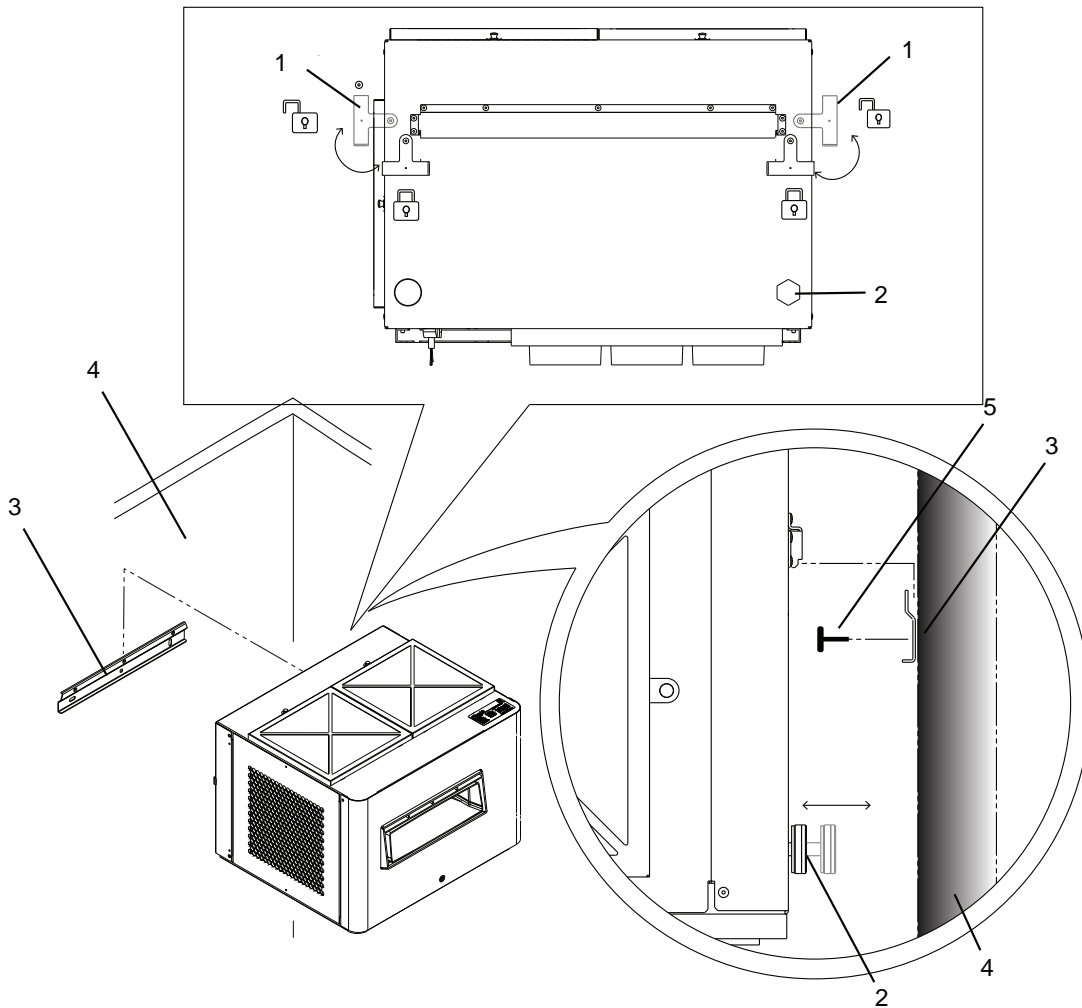

Figure 8 - Remote Mounting the Ultrasonic Blower Pack
- a. Locate a 2×4 wooden stud or equivalent support in the mounting surface, and mark the position with the help of a level – refer to Figure 8 below.